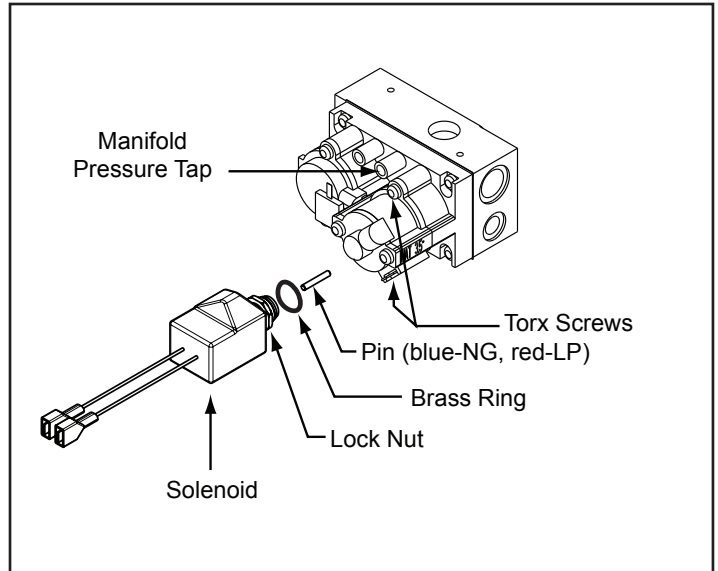

Figure 9 Valve Components
- Remove the natural regulator head by removing the two Torx screws that hold regulator to valve (see Figure 9).